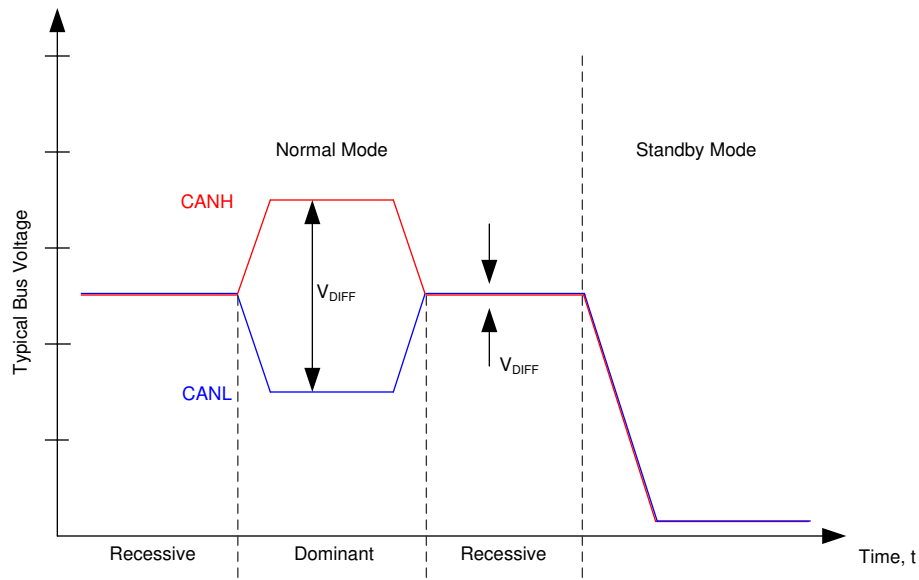
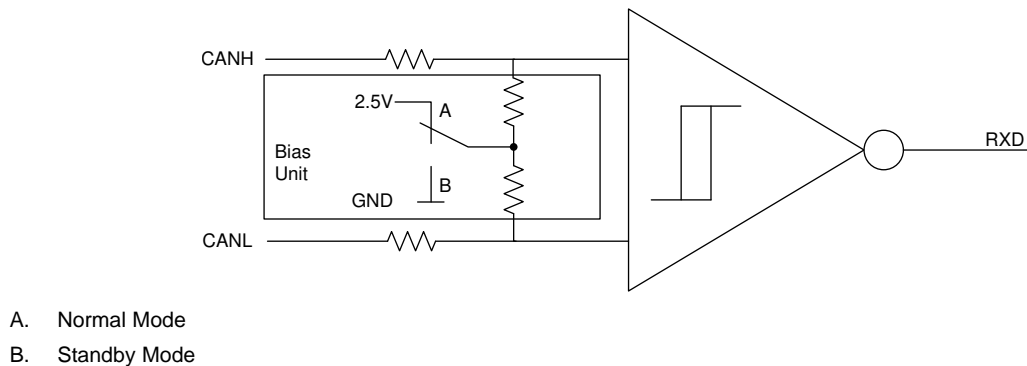
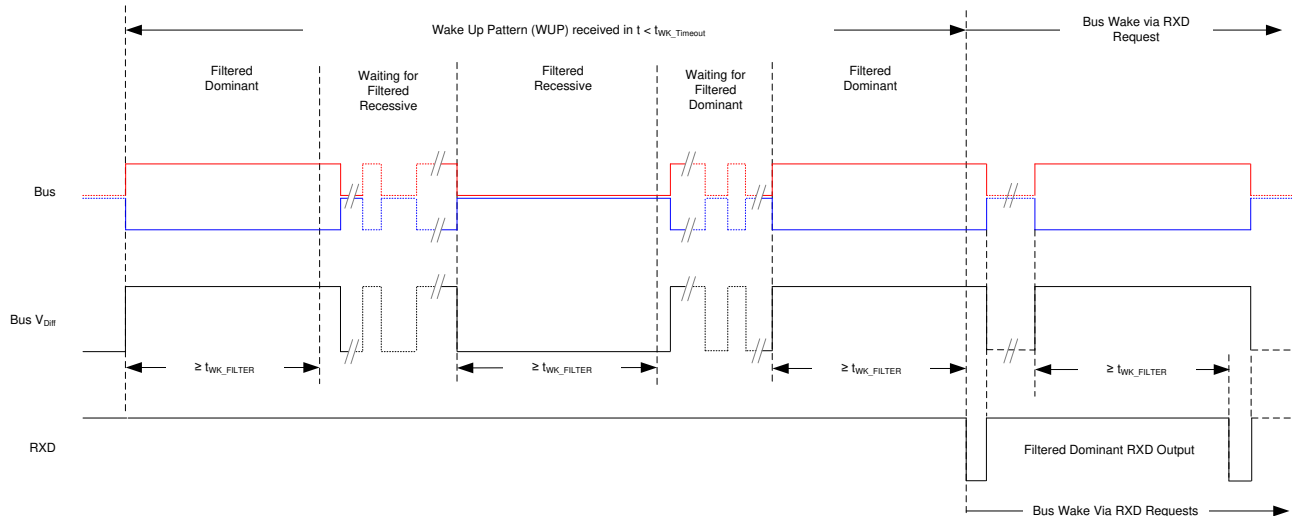

Figure 13. Bus States
Figure 14. Simplified Recessive Common Mode Bias Unit and Receiver
Figure 16. Wake-Up Pattern (WUP) with $t_{WK_TIMEOUT}$
The CAN bus has two logical states during operation: recessive and dominant. See Figure 13 and Figure 14.
The TCAN1044-Q1 transceiver implements a low-power standby (STB) mode which enables a third bus state where the bus pins are weakly biased to ground via the high resistance internal resistors of the receiver. See Figure 13 and Figure 14.
This is the low-power mode of the TCAN1044-Q1. The CAN driver and main receiver are switched off and bi-directional CAN communication is not possible. The low-power receiver and bus monitor circuits are enabled to allow for RXD wake-up requests via the CAN bus. A wake-up request is output to RXD as shown in Figure 16. The local CAN protocol controller should monitor RXD for transitions (high-to-low) and reactivate the device to normal mode by pulling the STB pin low. The CAN bus pins are weakly pulled to GND in this mode; see Figure 13 and Figure 14.
For a dominant or recessive to be considered filtered, the bus must be in that state for more than the t_{WK_FILTER} time. Due to variability in t_{WK_FILTER} the following scenarios are applicable. Bus state times less than $t_{WK_FILTER(MIN)}$ are never detected as part of a WUP and thus no wake request is generated. Bus state times between $t_{WK_FILTER(MIN)}$ and $t_{WK_FILTER(MAX)}$ may be detected as part of a WUP and a wake-up request may be generated. Bus state times greater than $t_{WK_FILTER(MAX)}$ are always detected as part of a WUP, and thus a wake request is always generated. See Figure 16 for the timing diagram of the wake-up pattern.
For an additional layer of robustness and to prevent false wake-ups, the device implement a wake-up timeout feature. For a remote wake-up event to successfully occur, the entire WUP must be received within the timeout value $t \leq t_{WK_TIMEOUT}$. If not, the internal logic is reset and the transceiver remains in its current state without waking up. The full pattern must then be transmitted again, conforming to the constraints mentioned in this section. See Figure 16 for the timing diagram of the wake up pattern with wake timeout feature.
(1) X = irrelevant
(2) For bus state and bias see Figure 13 and Figure 14